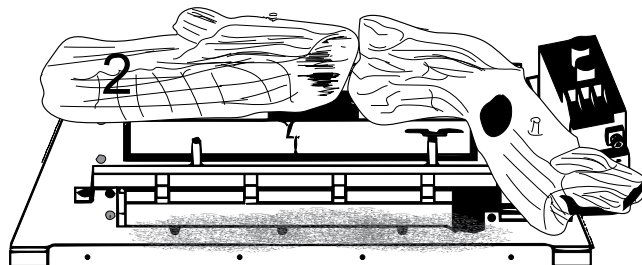

Figure 5.3 - Log #2 Placement
3. Hold log #2 with the flat surface away from you. Place log #2 toward the back to the left by positioning the pin locator hole on the bottom of the log over the pin on the left-hand side and push back against the rear bend on the sheet metal of the burner assembly. See Figure 5.3.